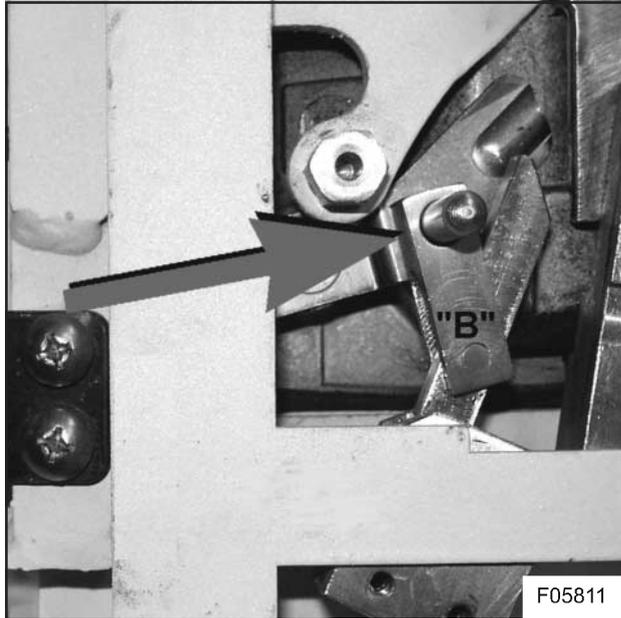

Figure 25: Adapter linkage B installation step 1
- 1) Slide adapter linkage B over the handle locking pin as shown in Figure 25.